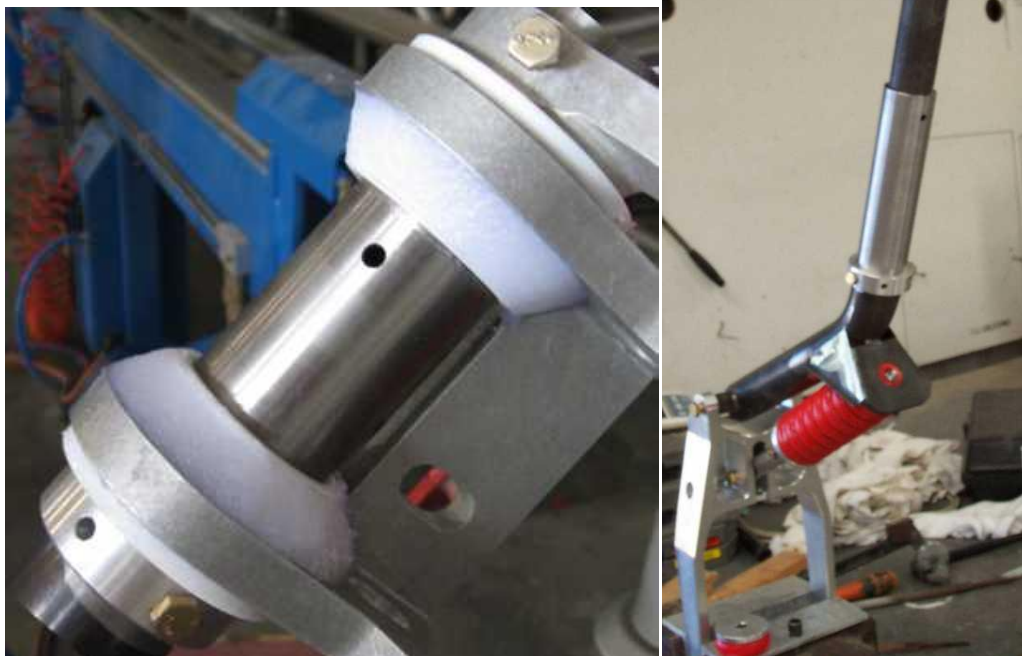

Figure 84 – Nose Leg Housing & Assembly (all J-Series)
- Ensure there is a thick flock bed around the part as shown in Figure 84 (left).
3. Clamp the leg in a vice as shown in Figure 84 (right). Ensure good soft-jaws are used to avoid damaging the nose leg yoke.
5. Fit an extension to the nose leg as shown in Figure 84 (right) and use it as a lever to carefully compress the rubber until the tension comes off the restraint washer. Remove the restraint bolt and washer and carefully allow the rubber to expand.